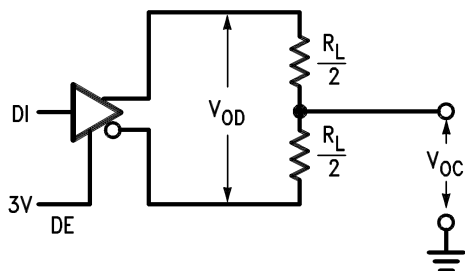

Figure 3. Driver  $V_{OD}$  and  $V_{OC}$
Voltage (3)	(Figure 3) (EIA-485)